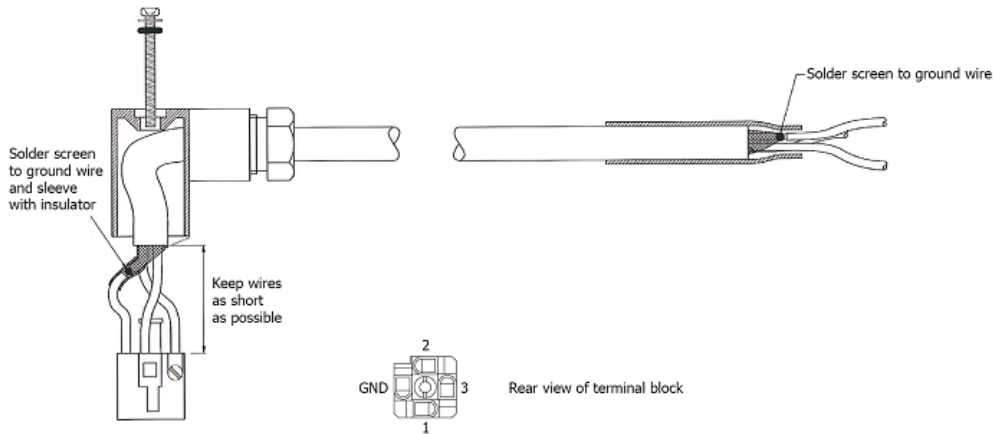

Figure 16 *Easidew Transmitter*
4. Cable should be assembled according to *Figure 16*.